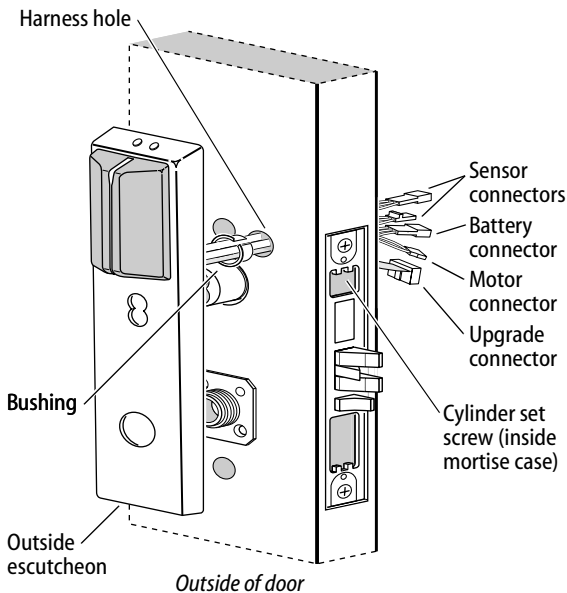
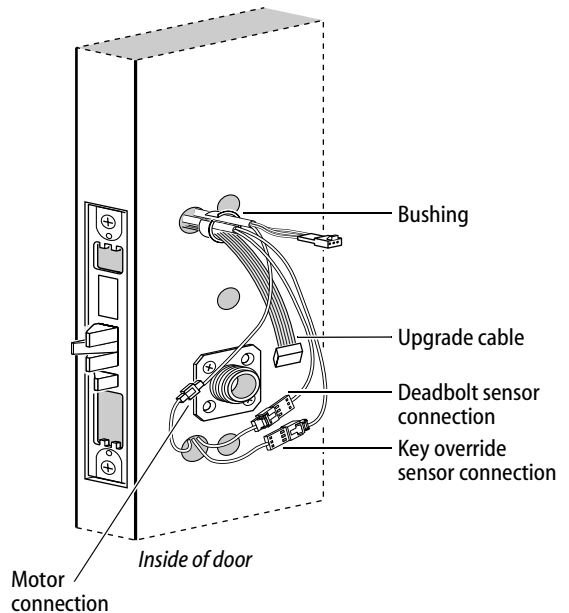

Figure 11 Feeding the wire harness connectors through the harness hole
Figure 12 Making the motor connection and sensor connections
- 1 Insert the two bushings into the harness hole on each side of the door, as shown in Figure 11 and Figure 12.